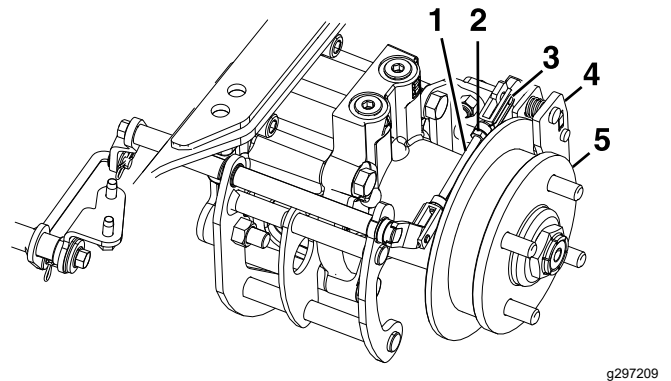

Figure 96
8. Remove the spring clevis pin from the rear linkage and caliper (Figure 96).
12. Tighten the jam nut on the rear linkage (Figure 96).